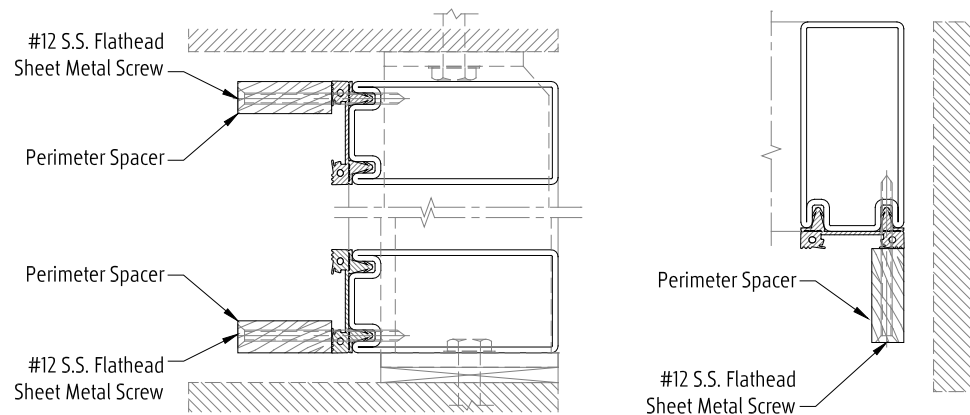

Figure 24 - Perimeter Spacer Installation
- f. Seal outside leg of flexible flashing to surrounding condition with 1" minimum of sealant coverage (Figure 24).
NOTE: *Not all holes in the connecting plates get fasteners at this point. Only locate screws in the holes as shown in Figures 24 and 25.*